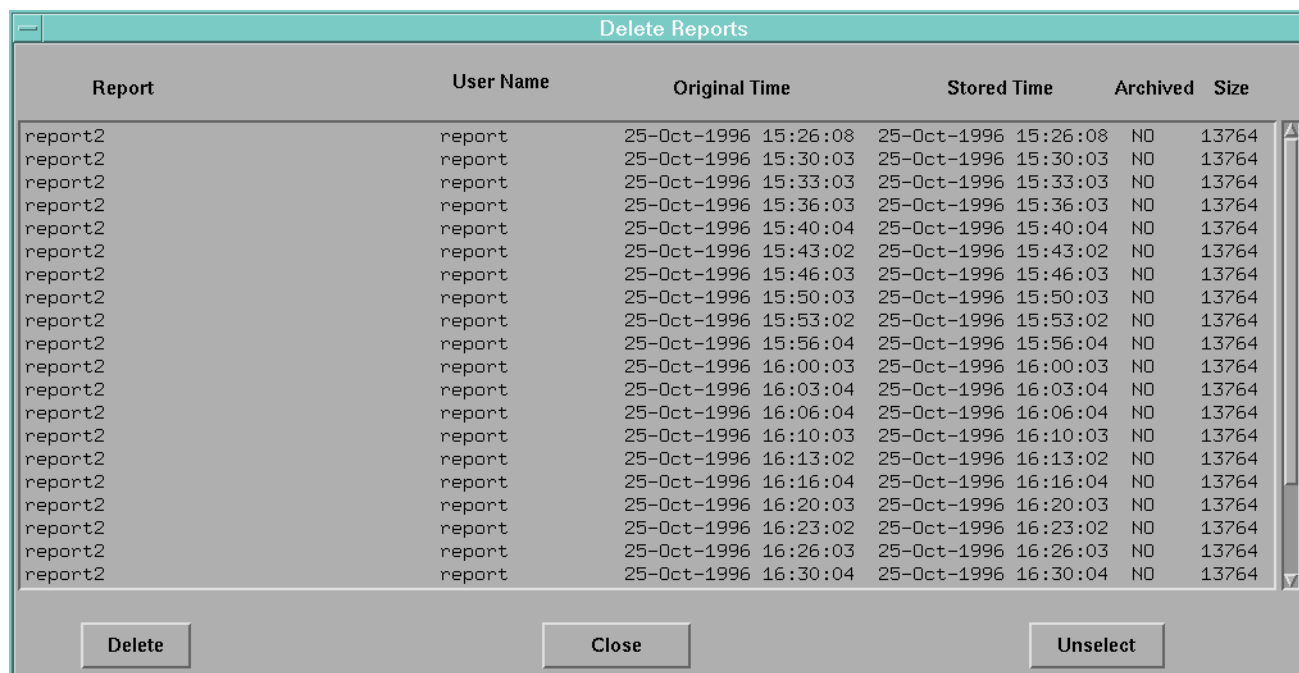

Figure 4-11. Delete Reports Dialog Box
2. Choose **Delete Many Reports** from the **Action** Menu. This displays the Delete Reports dialog box, Figure 4-11.